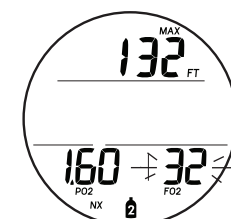

Fig. 47B - SET FO2 GAS 2 (for Nitrox)
- > FO2 value flashing (Fig. 47B), with NX, Gas (tank) 1 (or 2 or 3) and FO2 icons.